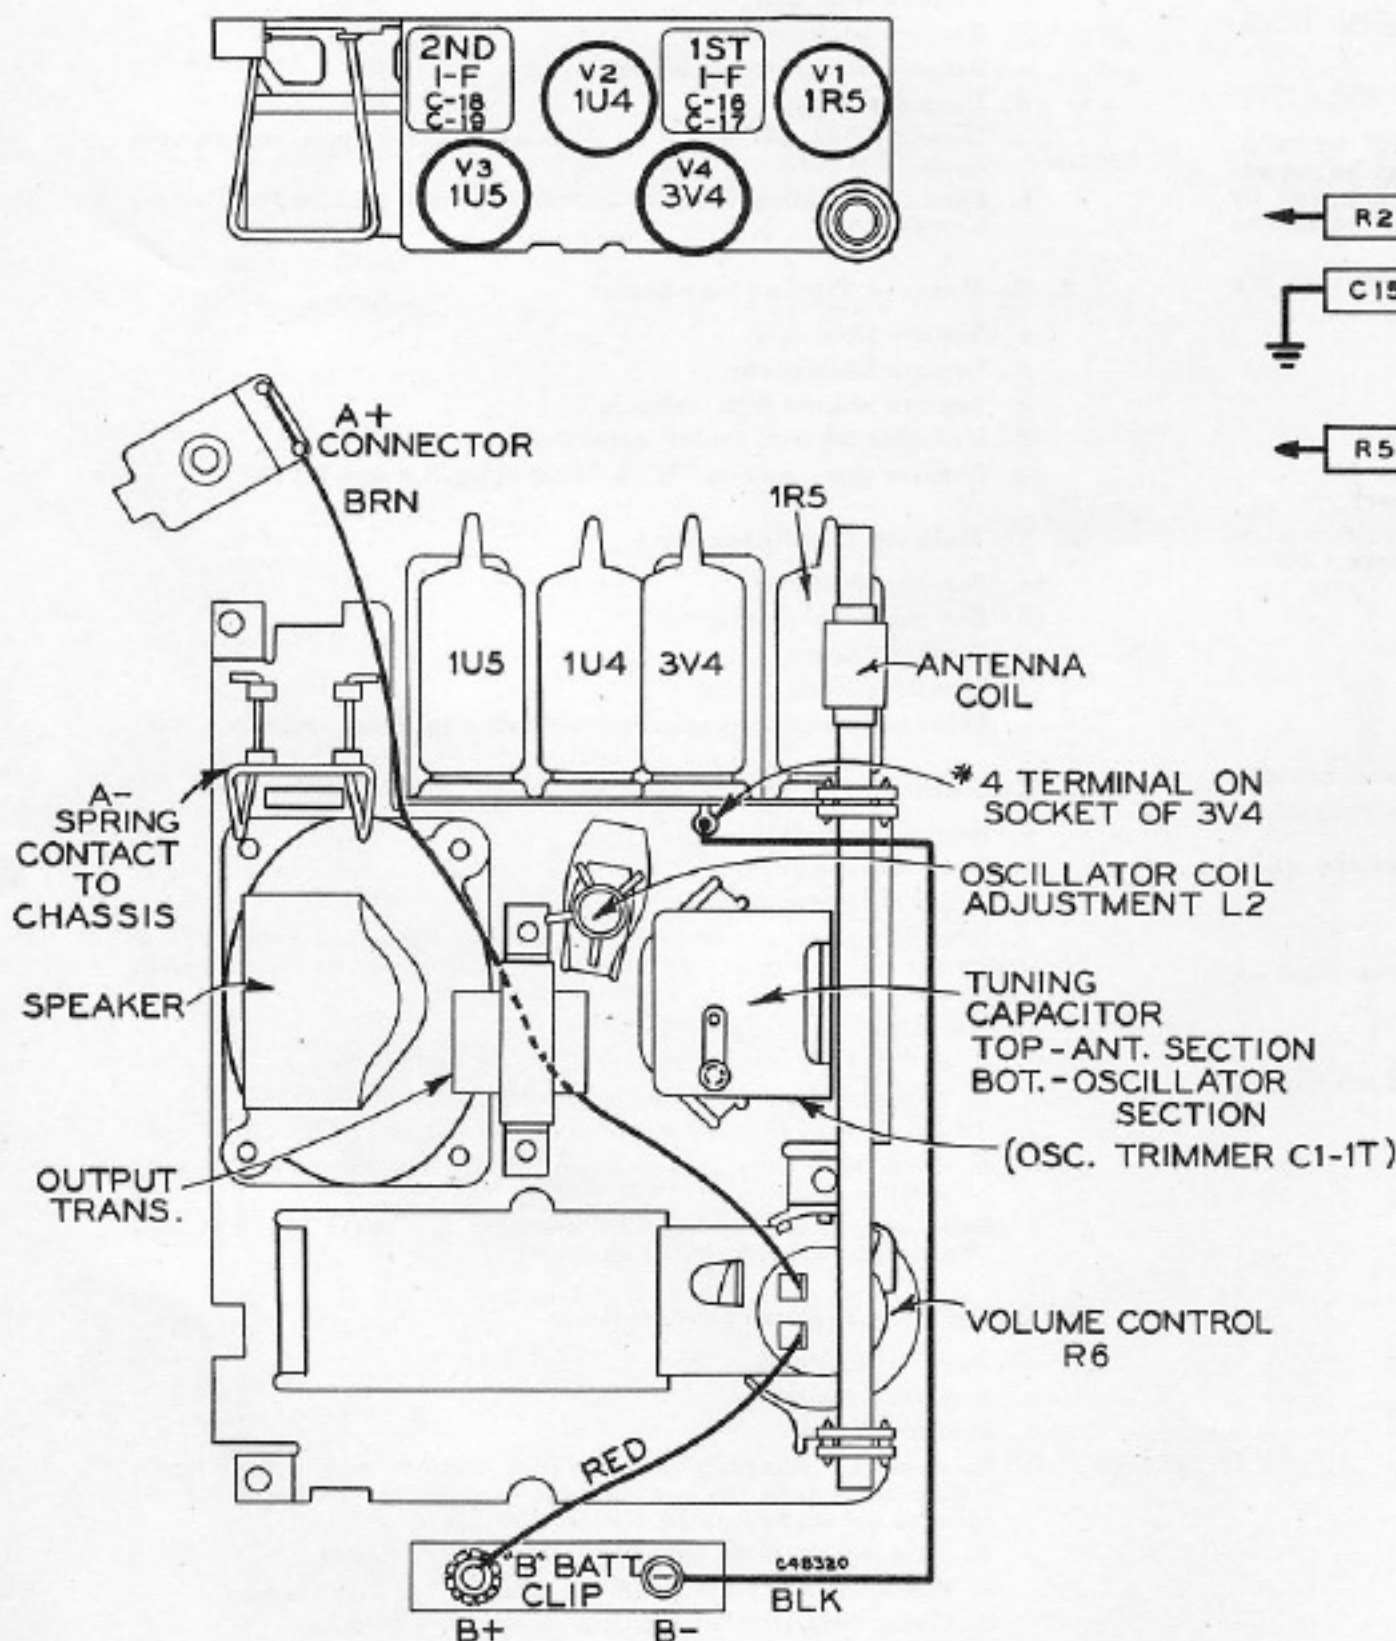

Fig. 3—Tube Trimmer location
- Remove two screws "B" figure 3 and lift speaker out.